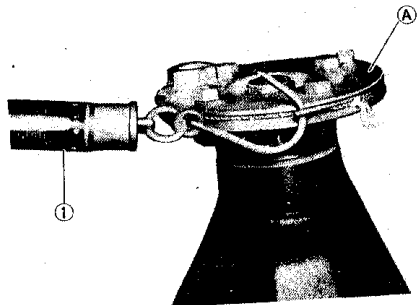

Fig. 15-12 ① Spring measure
The bevel pinion, as installed in the normal manner in the carrier, is required to offer a certain torque resistance when checked with the use of a prescribed torquing pulley (special tool A) as shown in Fig. 15-12. This resistance is a "preload", which is due to the tightness of the two tapered roller bearings by which the pinion is held in the carrier. And this tightness is determined primarily by the thickness of the adjusting collar, plus a shim.
Put on the torquing pulley (special tool) and give a pull, as shown in Fig. 15-12, and read the spring balance indication just when the pulley begins to turn. The reading is a starting torque, and is required to be within the 0.6 to 1.4 kg range (equivalent to the specified torque range of 3.0 to 7.0 kg-cm).
Adjust the preload on the side bearing during backlash adjustment; mount the preload check torquing pulley (A) on the drive bevel pinion as shown in Fig. 15-12 and measure using spring measure (1). When the reading at the instant the side bevel gear starts moving is within the range as indicated below, the side bearing preload is acceptable. Referring to the graph, for example, when the drive bevel pinion bearing preload measured as indicated in Fig. 15-12 is 1.0kg (9.8N), drive bevel pinion bearing preload + side bevel gear bearing preload should be 1.12~1.28 kg (11~13N)